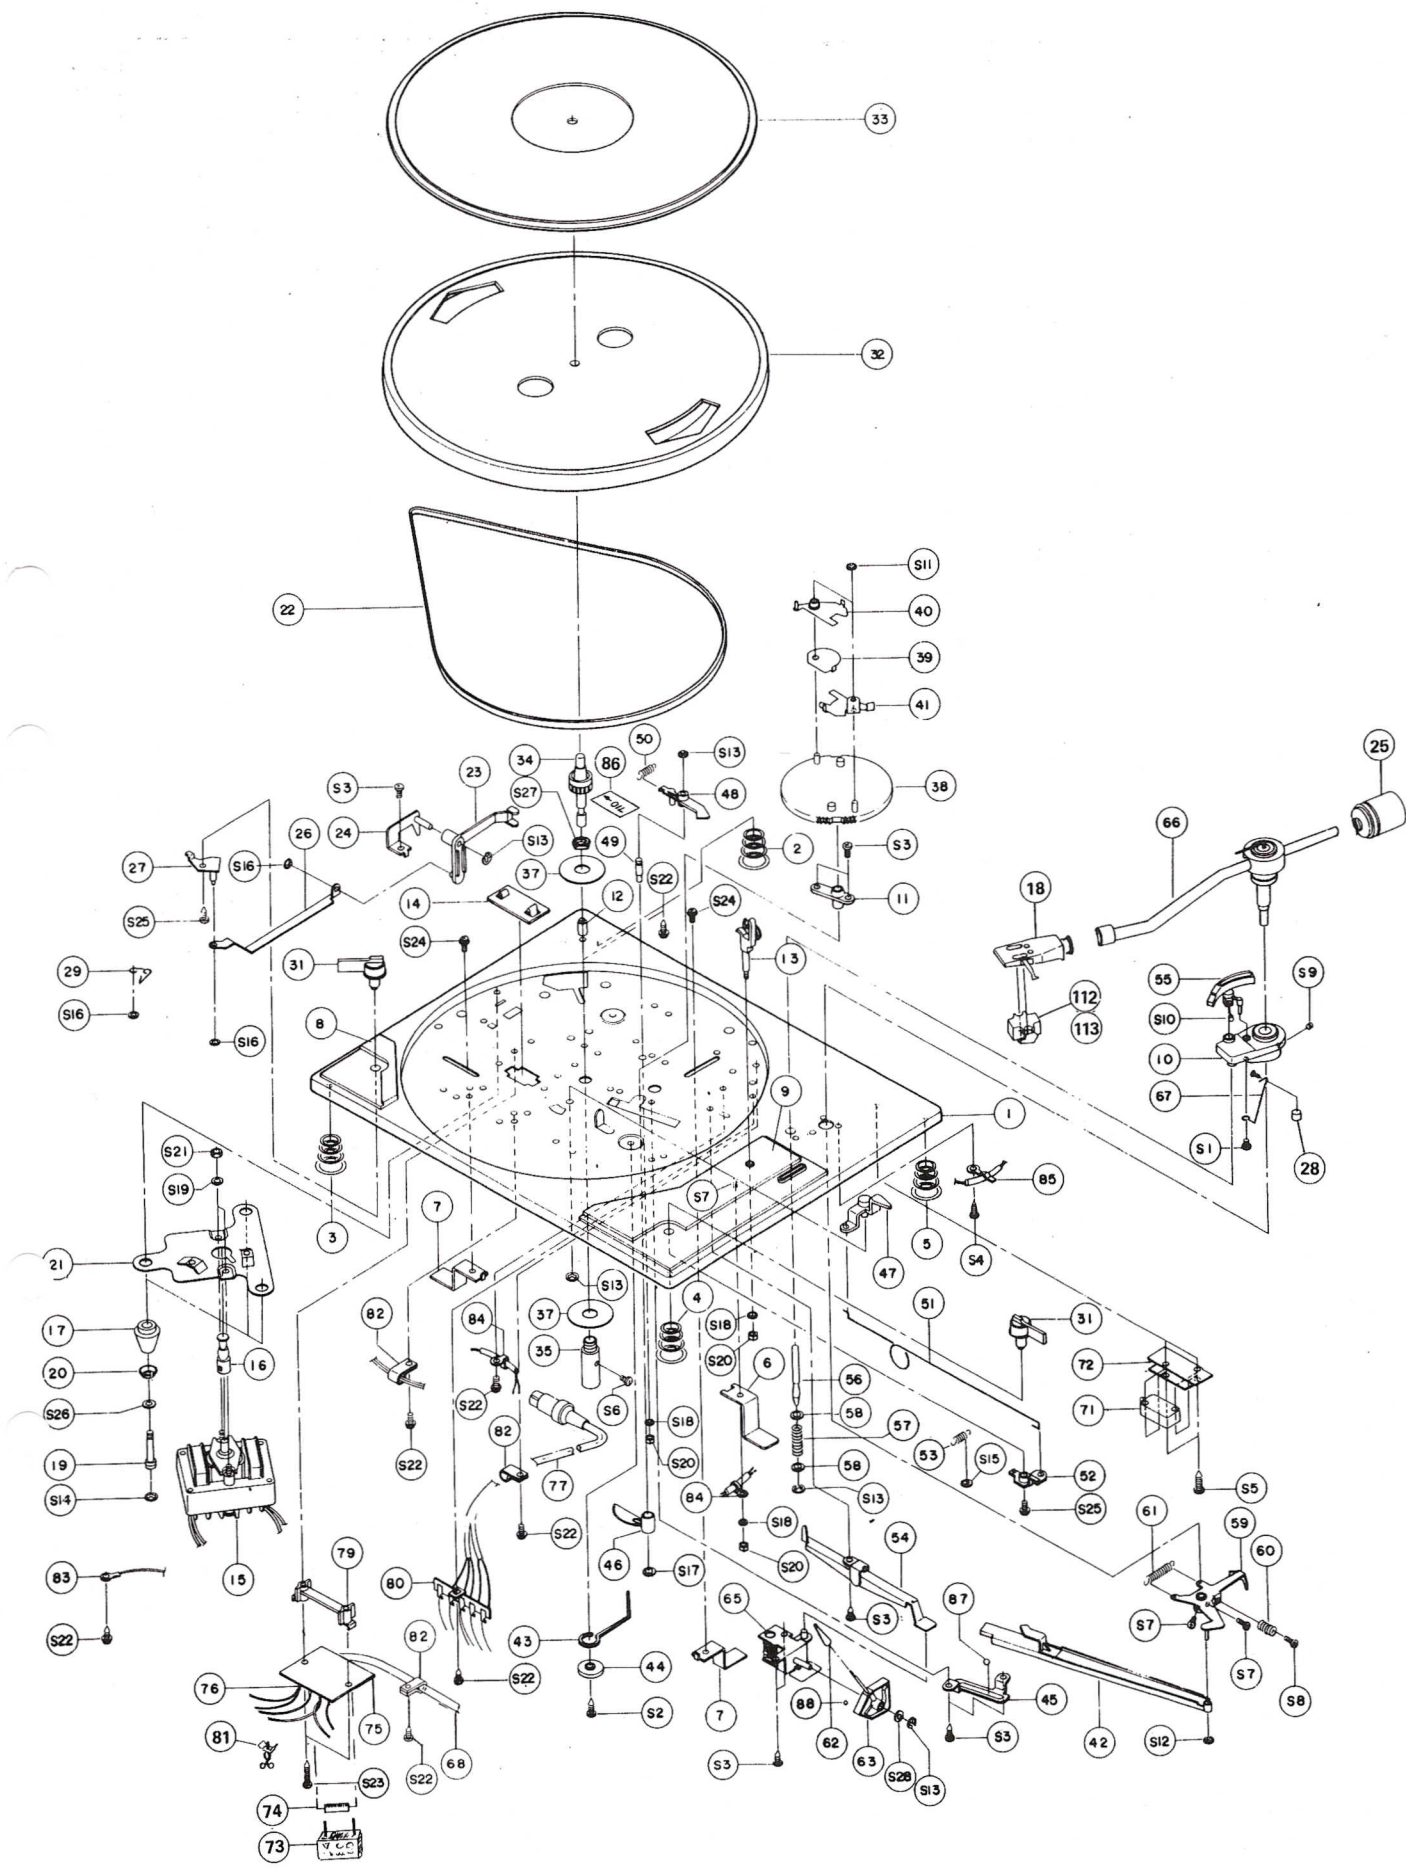

Fig.11. Mekaniske deler
5.1 Mekaniske deler, ref. fig. 11 Mechanical parts, ref. fig. 11